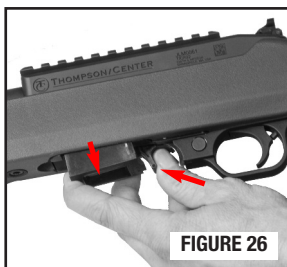

FIGURE 26
- Press magazine release forward and remove the magazine from the rifle (FIGURE 26).